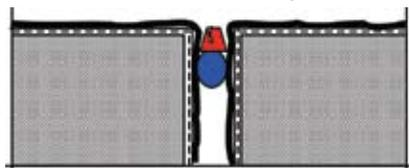

Fig. 2
1. Slice along the terminating edges of the distressed sealant (Fig. 1) with a sharp scoring knife to separate it from the adjacent EIFS finish or base coat material (Fig 2). Take care not to slice into the EIFS materials.